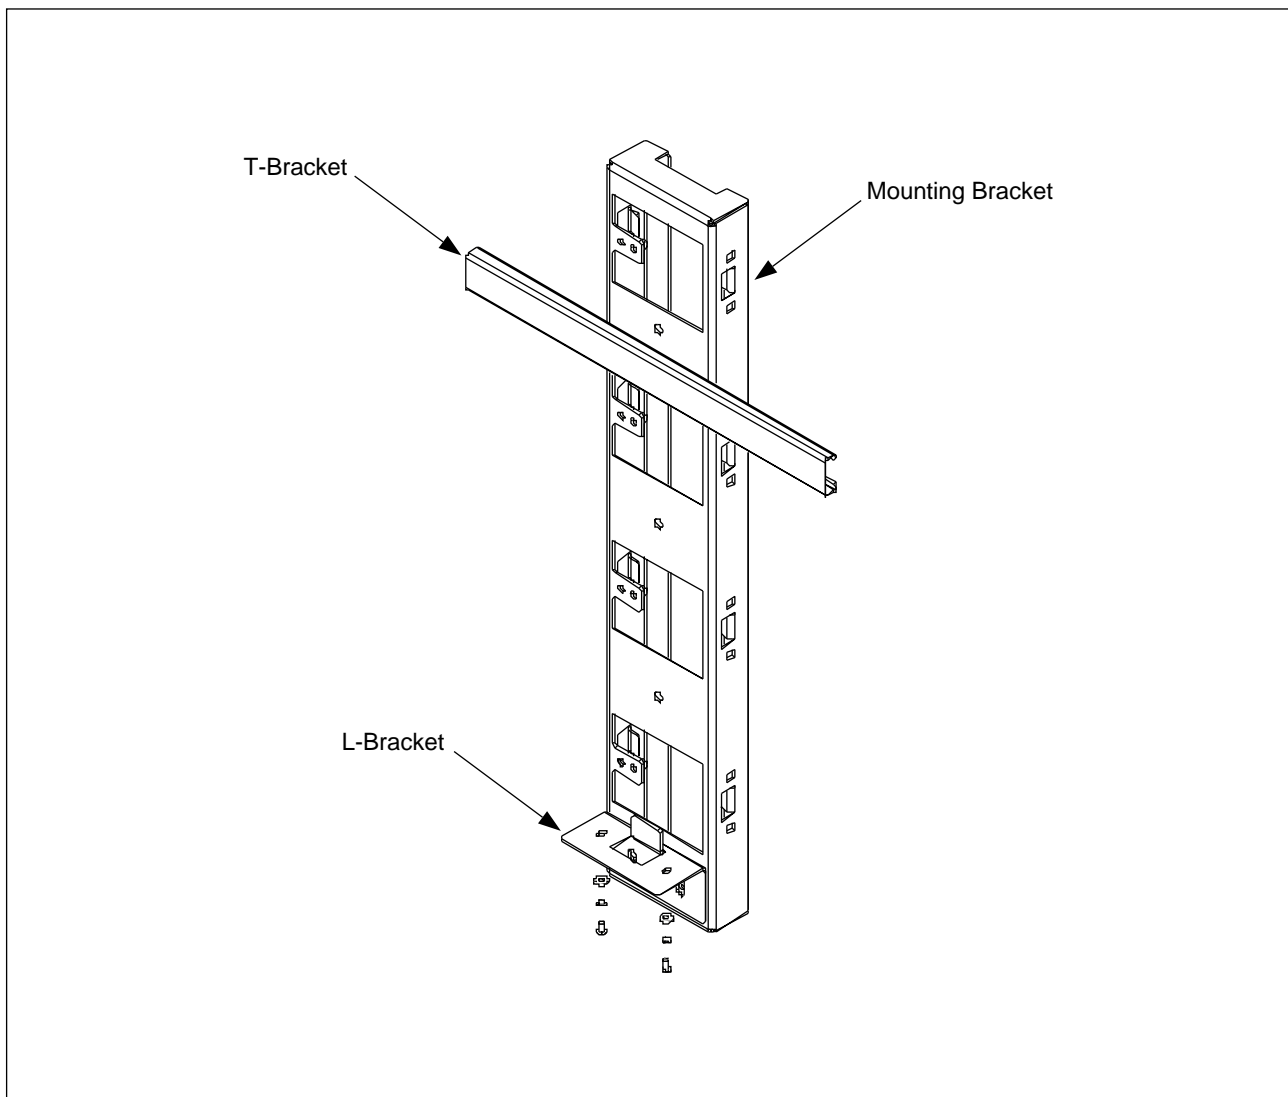

Figure 4-9. Wall-Mount Assembly
3. Identify the mounting bracket, and mounting hardware. A fully assembled Wall Mount Assembly is shown in Figure 4-9 on page 4-21.
6. Loosely attach the L-bracket to the wall mount assembly using two screws, two lock washers, and two flat washers. See Figure 4-9 on page 4-21 for the position of the L-bracket on the wall mount assembly.